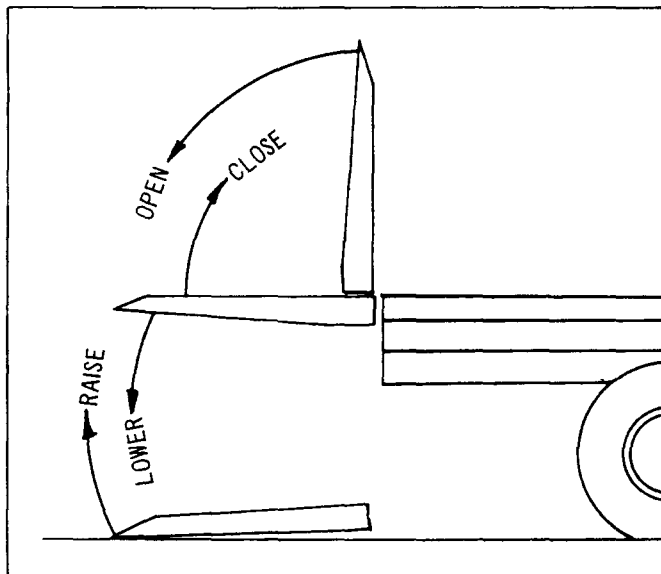
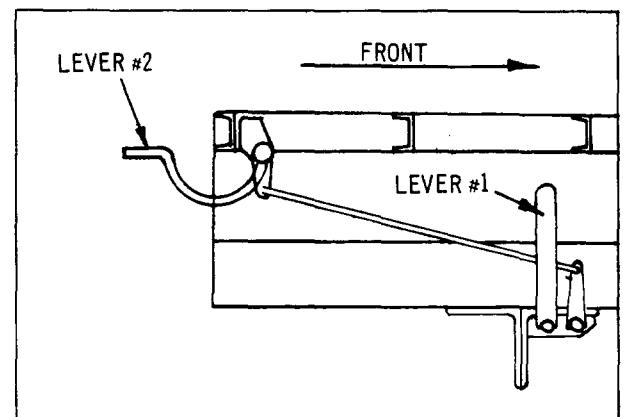

Fig. 6
Fig. 7
Note: In some types of lift gates, the tilting of the platform is controlled by a separate lever or is performed manually. See Figs. 7, 9, and 16.
11.08 To open platform, see Figs. 6 and 7.
(a) Move opening and closing control lever (see Fig. 7, lever #1) toward rear of truck.
11.09 To close platform, see Fig. 6.
11.10 To lower platform, see Fig. 6.
(a) Move control lever (see Fig. 7, lever #2) momentarily to "up" position (this releases safety lock), then to "down" position.
11.11 To raise platform, see Fig. 6.
(a) Move control lever (see Fig. 7, lever #2) to "up" position.
(see Fig. 7, lever #1) toward front of truck.
Note: With platform in "open" position (see Fig. 6), if it should start to close (to raise toward "vertical" position) when lowering lever (see Fig. 7, lever #2) is placed in position for lowering action—this indicates that control lever #1, Fig. 7, is not in "neutral" position. Simply move lever to "neutral" position and continue operation.